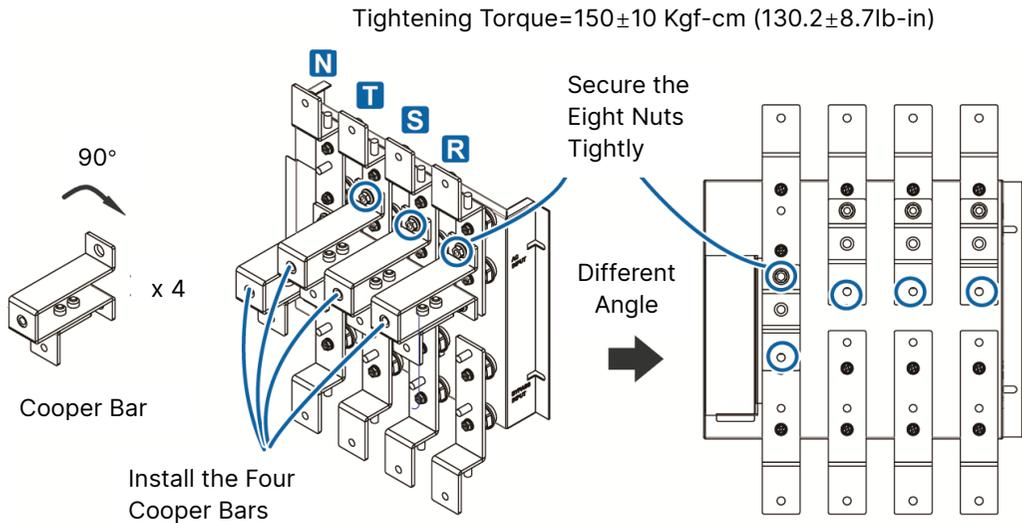

Figure 5-8: Install the Four Copper Bars and Secure the Eight Nuts_ for Dual Input & Bottom Wiring Application
- B. For dual input and bottom wiring application, follow **Figure 5-8** to install the removed four copper bars in the designated areas. Please secure the eight nuts tightly.